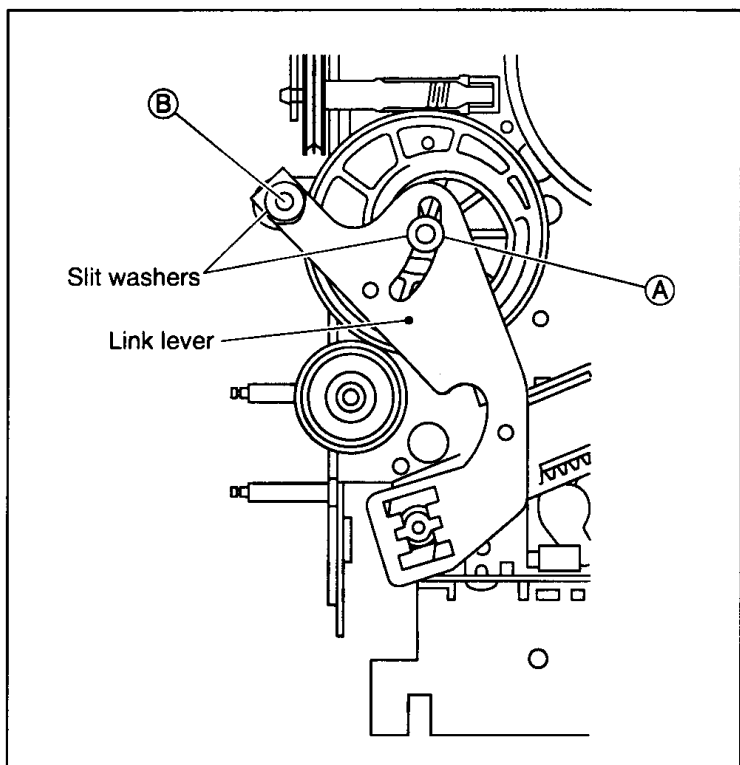

Fig. 2-3-6
- (2) Turn over the rotary encoder with its register marks kept in alignment and install it by fitting on the shaft of the rotary encoder guide and the positioning pin.
- (3) Tighten the screw (A) to complete the installation.
(4) Turn the link lever clockwise and mount it on the control cam center shaft (A) and the control cam left-side shaft (B). (See Fig.2-3-6).
(5) Fasten the slit washers at two points (A) and (B).